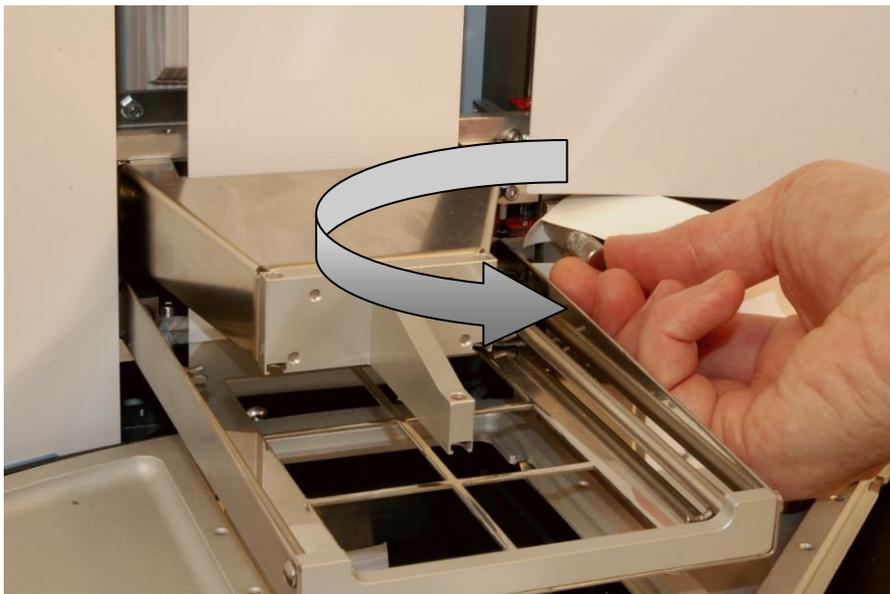

Figure 3. Removing the transport lock of the tip comb holder
1. To remove the transport lock of the tip comb holder, take hold of the transport lock screw and firmly turn it counterclockwise according to Figure 3.